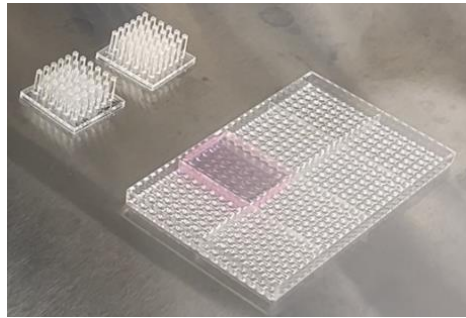

Figure 4. Dispensing 2.5 - 3 mL of the cell-Matrigel mixture per block in the LoadingPlate for rapid loading of the cells on the pillar plate.
13. Place the LoadingPlate on a flat surface, dispense 2.5 - 3 mL of the cell-Matrigel mixture per small block without big bubbles, and spread it properly with the pipette tip (**Fig. 4**).